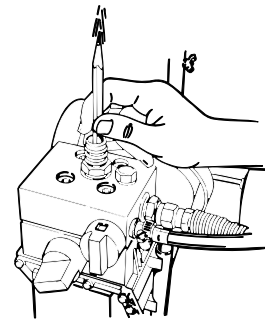

Figure 13 - Opening Inlet Valve
4. Force the inlet valve to open and close by pushing on it with the eraser end of a pencil or screwdriver, it should move up and down about 1/16 inch. Continue until water or oil is sucked into unit. This will assist in wetting the moving parts and breaking loose any old paint residue. See Figure 13.